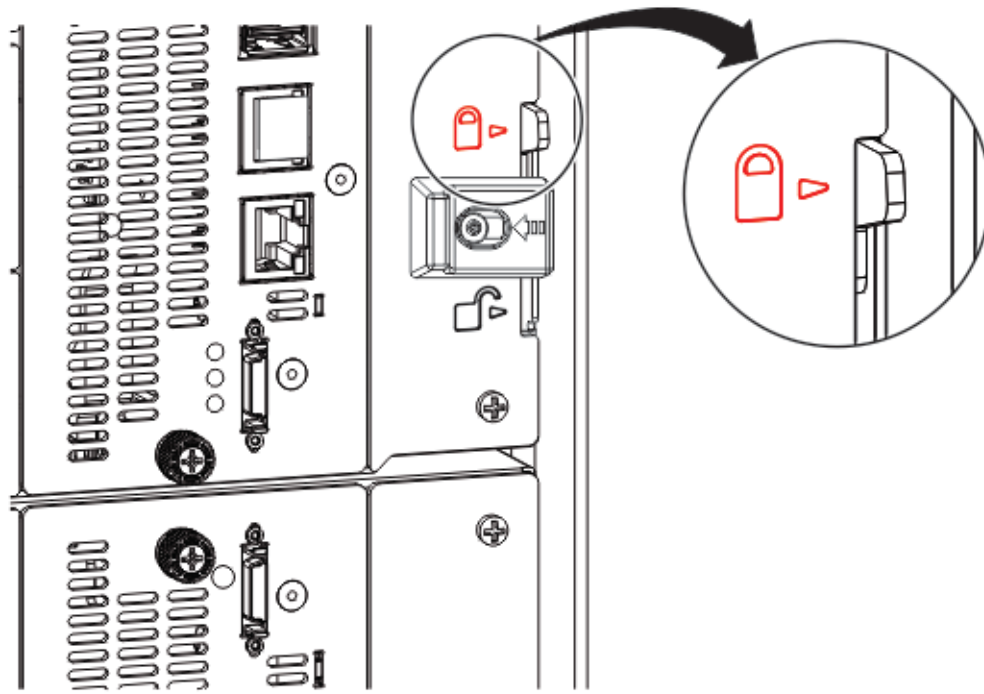

Figure 45. Alignment lever locked or engaged to lower module
2. From the back of the library, starting with the bottom pair of modules, align each module with the module below it. Repeat for each pair of modules. Refer to Figure 45.